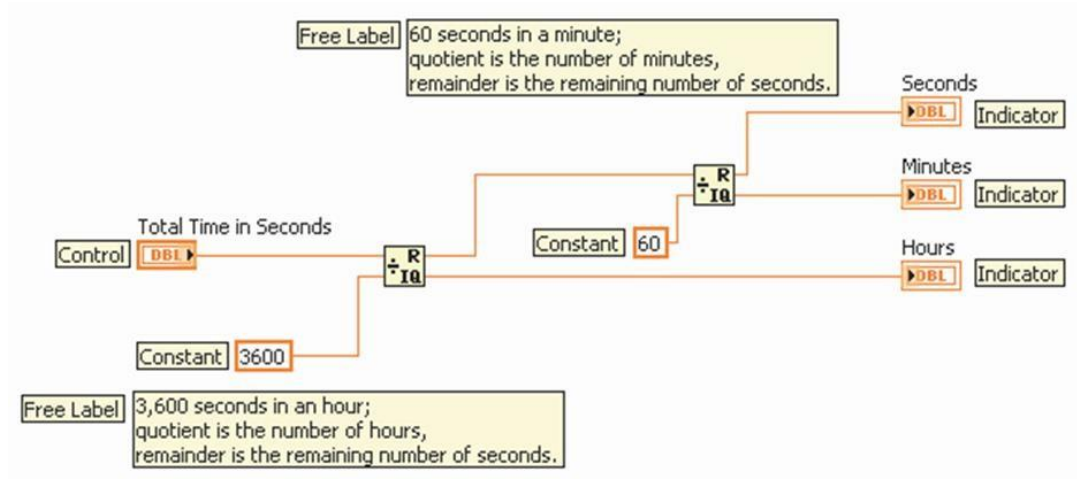

Figure 1.2 Block Diagram Items
2. On the block diagram shown in Figure 1.2, identify the following items: *Control, Indicator, Constant, and Free Label*
3. Test manually the VI (block diagram in Figure 1.2) using the values given in Table 1.1.